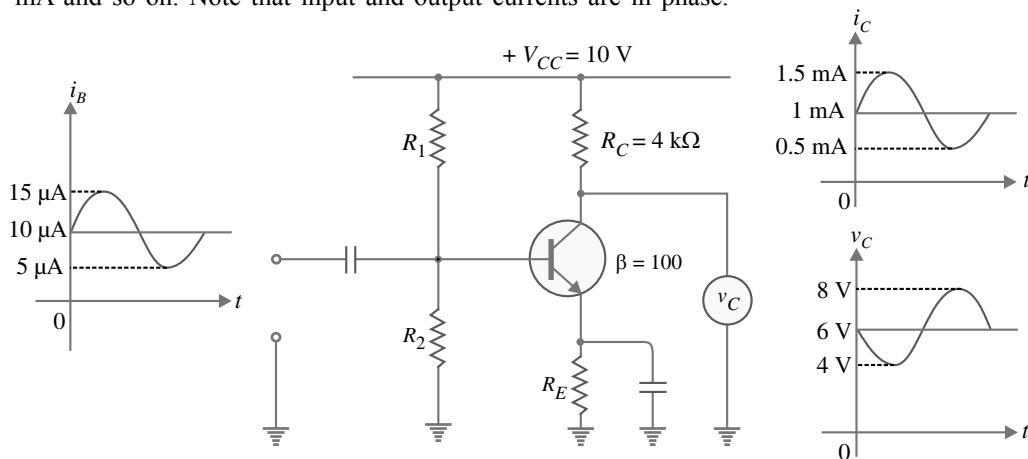

Fig. 8.7
**Solution.** In every type of amplifier, the input and output currents are in phase. However, common emitter amplifier has the unique property that input and output voltages are  $180^\circ$  out of phase, even though the input and output currents are in phase. This point is illustrated in Fig. 8.7. Here it is assumed that *Q*-point value of  $I_B = 10 \mu\text{A}$ , a.c. signal peak value is  $5 \mu\text{A}$  and  $\beta = 100$ . This means that input current varies by  $5 \mu\text{A}$  both above and below a  $10 \mu\text{A}$  d.c. level. At any instant, the output current will be 100 times the input current at that instant. Thus when the input current is  $10 \mu\text{A}$ , output current is  $i_C = 100 \times 10 \mu\text{A} = 1 \text{ mA}$ . However, when the input current is  $15 \mu\text{A}$ , then output current is  $i_C = 100 \times 15 \mu\text{A} = 1.5 \text{ mA}$  and so on. Note that input and output currents are in phase.
Note that as  $i_C$  increases from  $1 \text{ mA}$  to  $1.5 \text{ mA}$ ,  $v_C$  decreases from  $6 \text{ V}$  to  $4 \text{ V}$ . Clearly, output voltage is  $180^\circ$  out of phase from the input voltage as shown in Fig. 8.7.